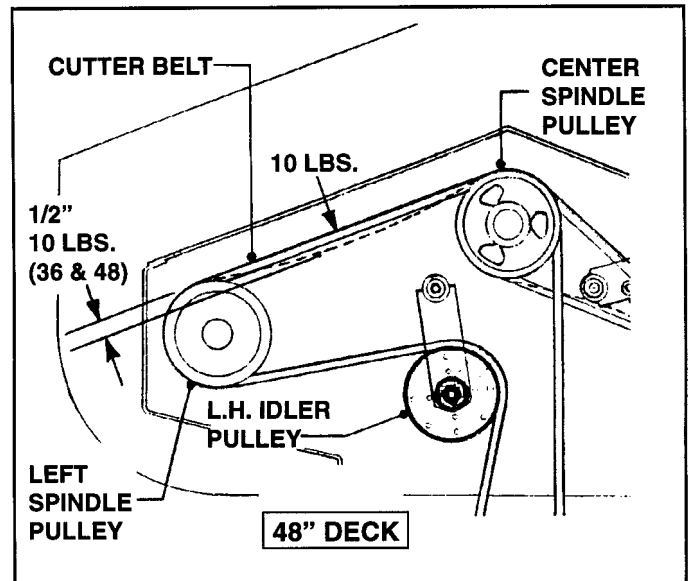

FIGURE 5.10
- B.** Pull Blade Clutch Lever rearward to the **ON** position and check for proper Cutter Deck Belt tension. (With 10 pounds of pressure being applied between the right and left pulleys, the Belt should move  $1/2"$ . **DO NOT OVER TENSION BELT!** See Figure 5.10.